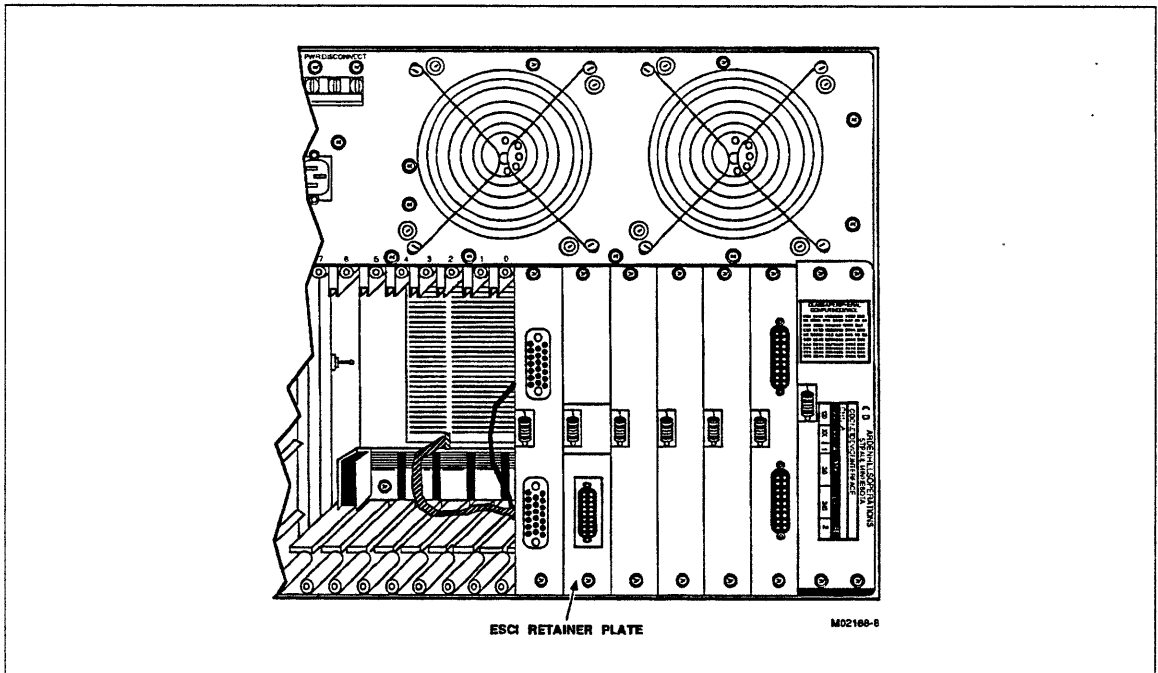

Figure 9-26. ESCI Board Retainer Plate
4. Remove external cable from back of ESCI retainer plate (figure 9-26).
5. Remove two screws from retainer plate in back of DI (figure 9-26).